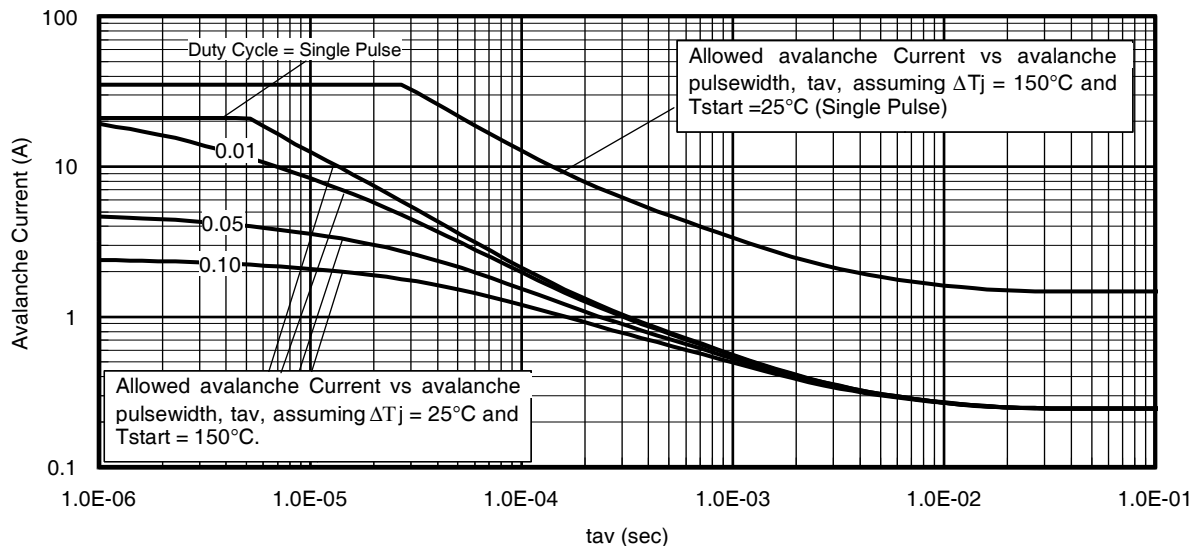

Fig 14. Typical Avalanche Current Vs. Pulsewidth
- ① Repetitive rating; pulse width limited by max. junction temperature. ④ $R_{\theta J}$ is measured at T_J of approximately 90°C .
② Starting $T_J = 25^\circ\text{C}$, $L = 0.51\text{mH}$, $R_G = 25\Omega$, $I_{AS} = 21A$. ⑤ Limited by T_{jmax} . See Figs. 14, 15, 17a, 17b for repetitive avalanche information
③ Pulse width $\leq 400\mu s$; duty cycle $\leq 2\%$.
Notes on Repetitive Avalanche Curves , Figures 14, 15:
7. ΔT = Allowable rise in junction temperature, not to exceed T_{jmax} (assumed as 25°C in Figure 14, 15).